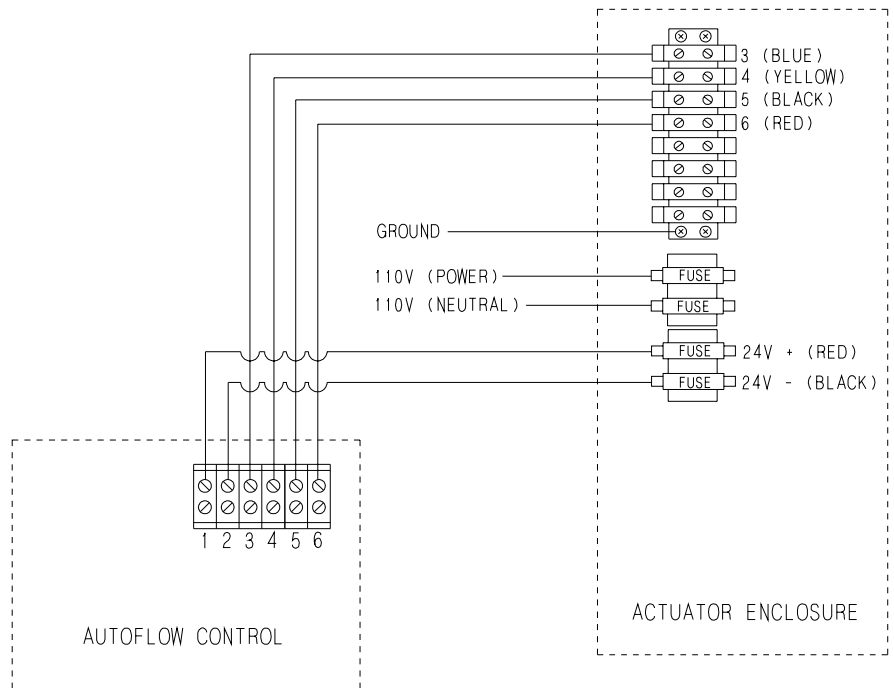
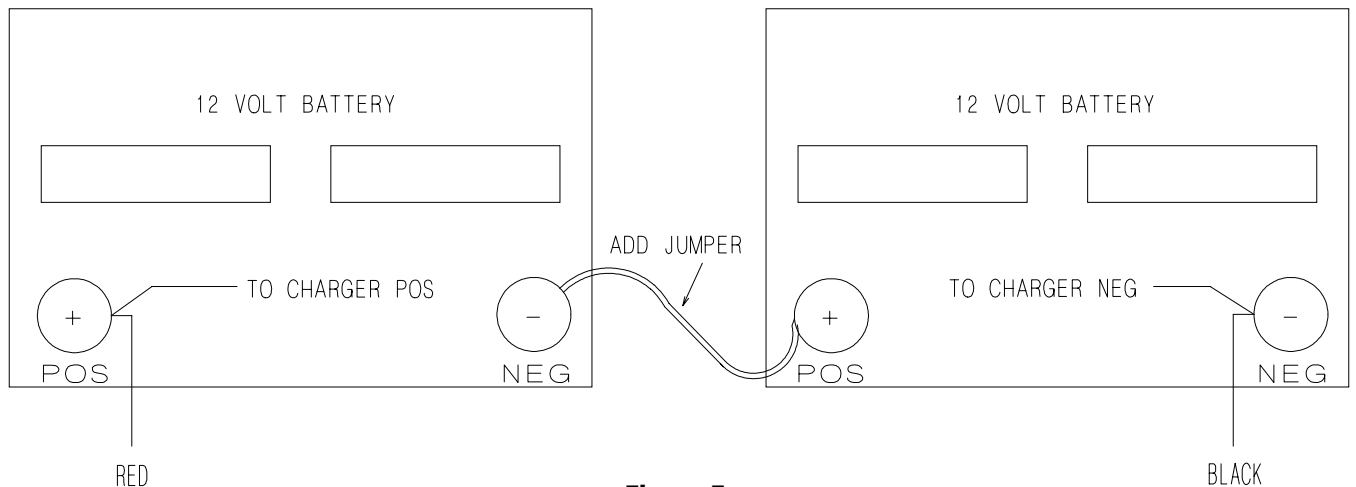

Figure 6.
Figure 5.
1. Mount (2) lawn and garden batteries in actuator enclosure using mounting straps that are included.
2. Connect red(+) and black(-) wires to batteries as shown in Figure 5.
3. Connect jumper wire between batteries as shown in Figure 5.
4. Run (6) 16 guage wires between main Autoflow control box and actuator enclosure.
5. Make wire connections as shown in Figure 6.
6. Run (3) 14 guage wires (black, white and green) from main power box (15amp breaker) to actuator enclosure. These wires are to supply 110 volts to battery charger outlet.
7. Connect battery charger leads to battery as shown in Figure 5.